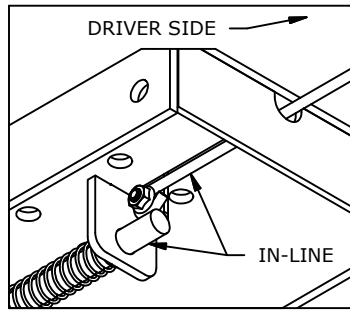

Figure F2.
2. **Secure Handle.** Secure the handle to the pin with the 5/16" X 3/4" carriage bolt and 5/16" locking flange, see figure F2. Note: The included 5/16" cap screw can replace the carriage bolt if wrench access on the "cab side" of the handle is limited. Tighten the nut until it is secure. Do not over-tighten and deform the handle eyelet.